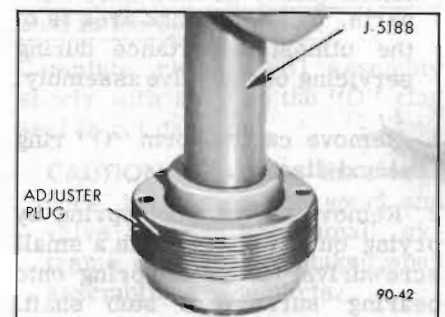

Figure 90-36—Installing Stub Shaft Seal
2. Lubricate new stub shaft seal with automatic transmission oil and install seal with spring in seal toward adjuster plug using tool J-5188. See Figure 90-36. Install seal only far enough in plug to provide clearance for dust seal and retaining ring. Place new dust seal with lip up in plug, then install retaining ring with No. 3 truearc pliers, J-4245.